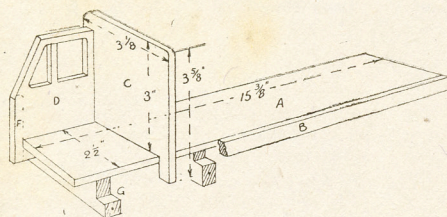

Fig. 3—General construction work
On each side of this floor and at the rear part are the sides (B) which measure 12½ in. long by ½ in. by ½ in. in section. Glue these pieces on and add one or two fine nails. Next mark out and cut the back of the cab, or the fire shield, as it is properly termed. In Fig. 3 the dimensions for this are given to be cut from ½ in. wood. Round off the top corners neatly as shown. Glue this to the floor and close up against the sides (B) and put in a few fine brads or wire nails from beneath.
We now make the axles for the wheels, and it will be seen from Fig. 3